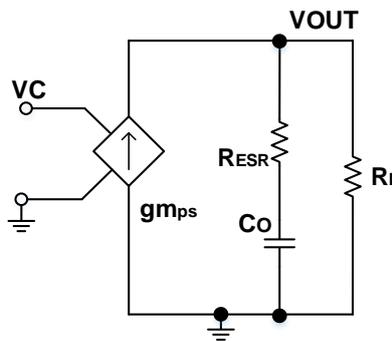
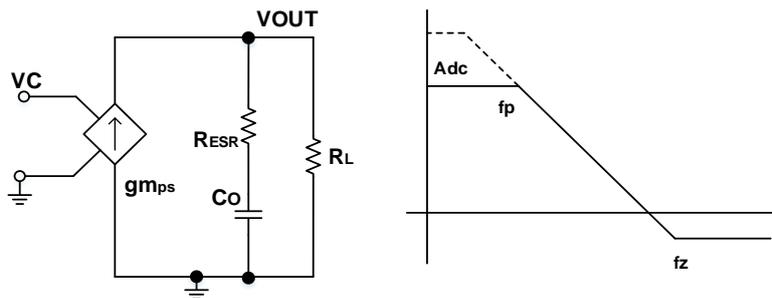

Figure 8. Small Signal Model for Loop Response
Figure 9. Small Signal Model for Loop Response
Figure 8 shows a simplified small-signal model for designing a frequency compensation network. The device power stage can be approximated as a volt-controlled current source (VCCS) providing current to the output capacitor and load resistor. The control-output transfer function is shown in Equation(5) and consists of a DC gain (A_{dc}), a dominant pole (f_p , see Equation(7)), and an ESR zero (f_z , see Equation(8)). Power stage transconductance (g_{mps}) is the ratio of the output current change to the control voltage (V_{COMP}) change, that is 16A/V for this device. Under resistive loads, the DC gain of the power stage is the product of g_{mps} and the load resistance (R_L), as shown in Figure 9. As the load resistance decreases, the DC gain decreases. Since the dominant pole moves with the load resistance (see Equation(6)). As the increase of the load resistance, the gain increases and the pole frequency decreases, and the 0-dB crossover frequency is kept constant under different load conditions, making the frequency compensation design easier.